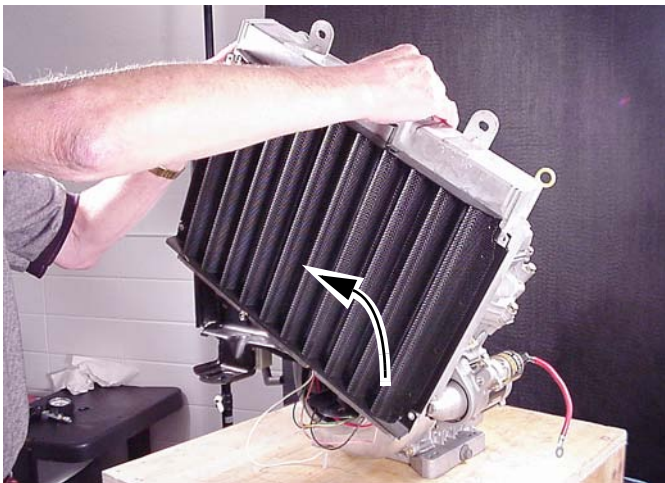

Fig. 173
2. Install radiator, Fig. 173. Torque nuts with washers to **100 in. lbs. (11.0 Nm)**. Torque lower mounting nuts first, then upper mounting nuts.